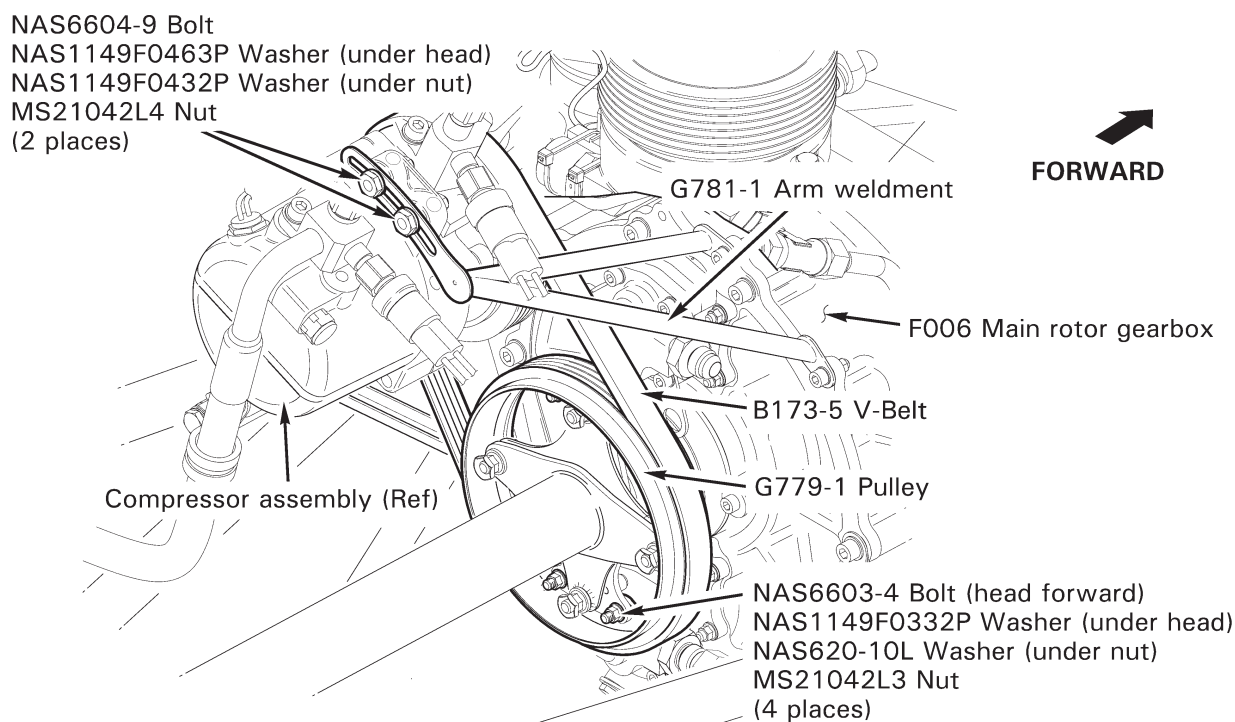

FIGURE 1-2 ASSEMBLY INSTRUCTIONS FOR R66 HELICOPTER CRATED FOR EXPORT
- c. Refer to Figure 1-2. Install hardware securing compressor to G781-1 arm weldment. Rotate compressor up and outboard to tension belt, then tighten hardware securing compressor to weldment. Verify belt is properly aligned on both pulleys. Adjust belt tension until 4.5-5.5 lb of force applied mid-span deflects belt 0.16-inch. Standard torque bolts per § 20-32.